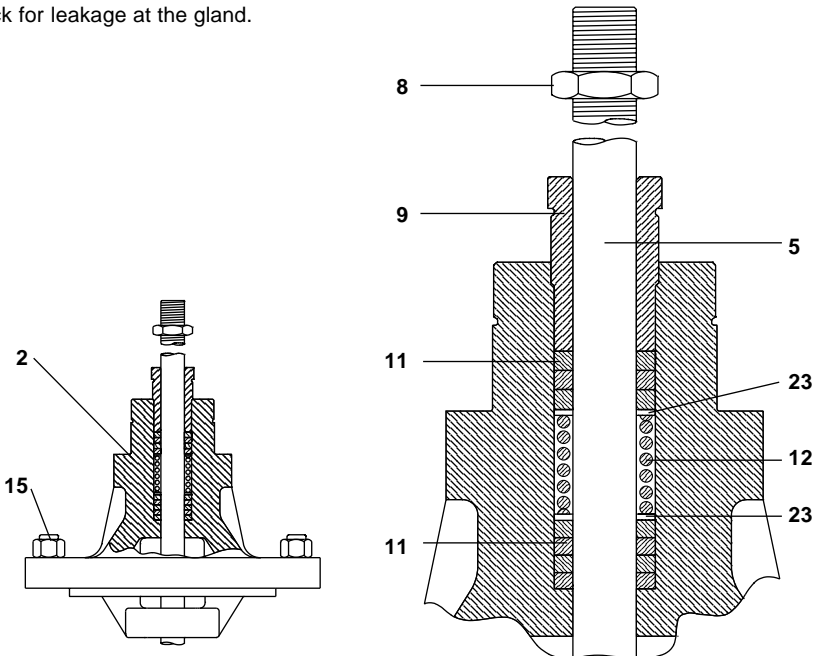

Fig. 4
- d) Unscrew and remove the gland nut (9). Unscrew the bonnet nuts (15) and withdraw the bonnet (2) taking care not to damage the spindle surface.
- e) Using a soft metal (brass) hooked tool remove the packing (11), the washers (23) and the spring (12) from the bonnet (2).
- f) Examine parts for signs of damage or wear and renew as necessary. Note that score marks or scaly deposits on the valve stem (5) will lead to early failure of the seals.
- g) Using a new gasket (13) refit the bonnet. Replace and finger tighten the bonnet nuts (15) and while pushing the valve stem so that the valve plug is on the seat, finally tighten them to the recommended torque as given in Table 1, page 15.
- h) Insert washers, spring and new PTFE or graphite ring gland seals into the packing chamber following the sequence shown in Figure 4, care being taken to avoid damage to the sealing edges.
- i) Refit the gland nut (9) and tighten until resistance is felt and unscrew by two turns.
- j) Ensure that the stem (5) moves freely.
- k) Refit valve lock-nut (8).
4.2.2 Procedure for renewing the valve stem (Refer to Figures 4, 5 and 6):
4.2.3 Procedure for renewing the valve stem, plug and seats on mixing valves (Refer to Figures 4 and 7):
4.2.4 Procedure for renewing the valve stem, plug and seats on diverting valves (Refer to Figures 4 and 8):